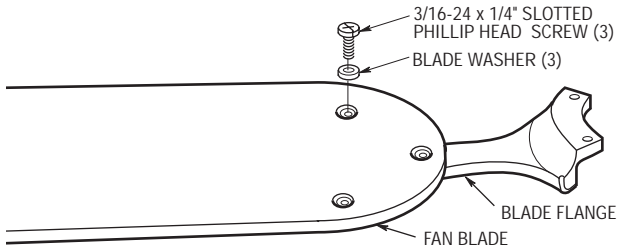

Figure 5
7. Mount blade flanges to fan blades using three 3/16-24 x 1/4" slotted Phillips screws and three blade washers (Figure 5).